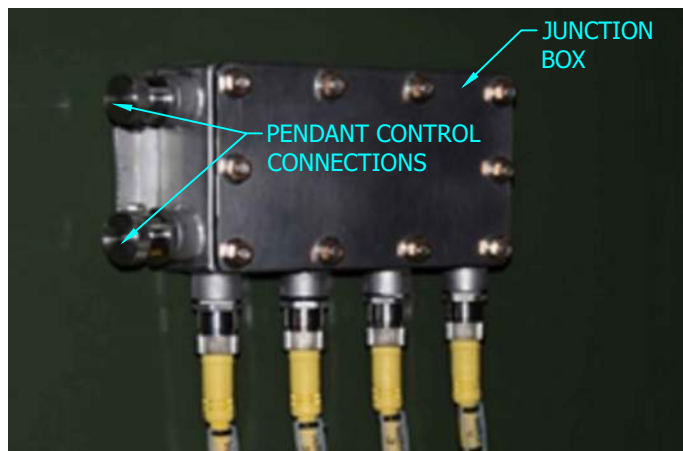

FIGURE 50 (M)
- (M) PENDANT CONTROLLER MUST BE CONNECTED TO THE JUNCTION BOX PICTURED BELOW TO OPERATE MOTOR OPERATORS. JUNCTION BOX CONNECTIONS ARE SEVEN-PIN AND 12-PIN, SO THEY CANNOT BE INSTALLED INCORRECTLY. SEE FIGURE 50.